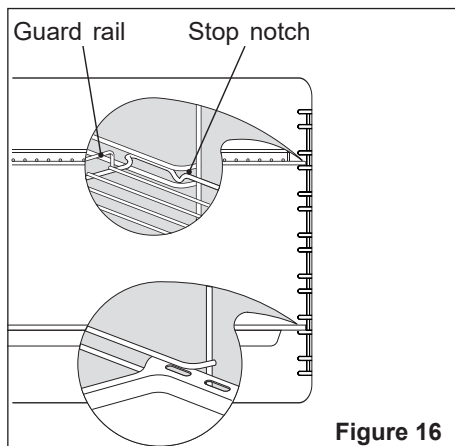

Figure 16
- Slide in, on the guides, the shelf and the tray (fig. 16).